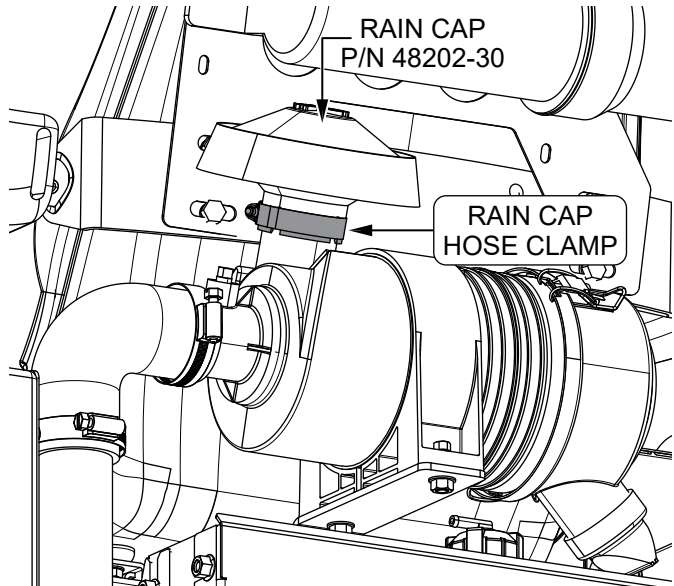

Figure 19. Install Rain Cap
10. Secure the **rain cap (P/N 48202-30)** to the air cleaner (P/N 48202-27) with the included **rain cap hose clamp**. See Figure 19.